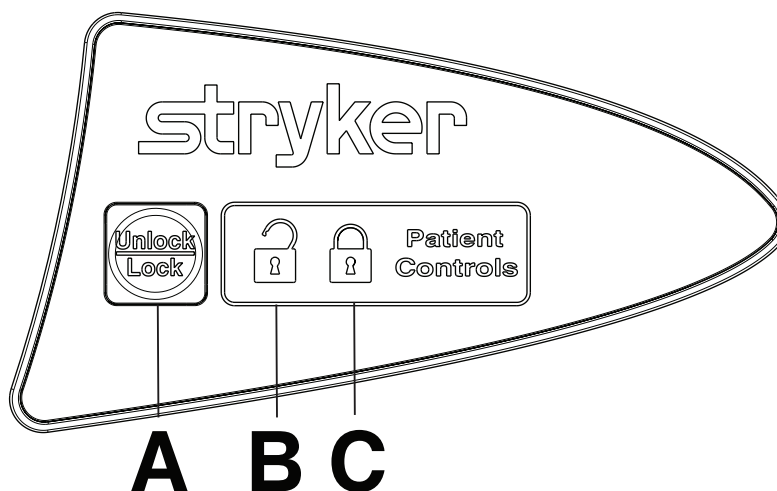

Figure 18 – Patient control panel lockout
To lock the siderail patient control panel, press **Unlock/Lock** (A) once (Figure 18).